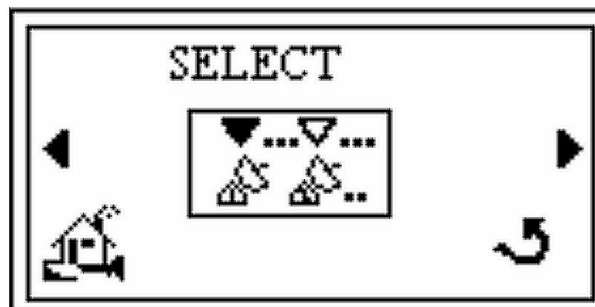

Figure 2-29 Select Screen
4. Press **Enter** and the the *Select* screen appears (Figure 2-29).